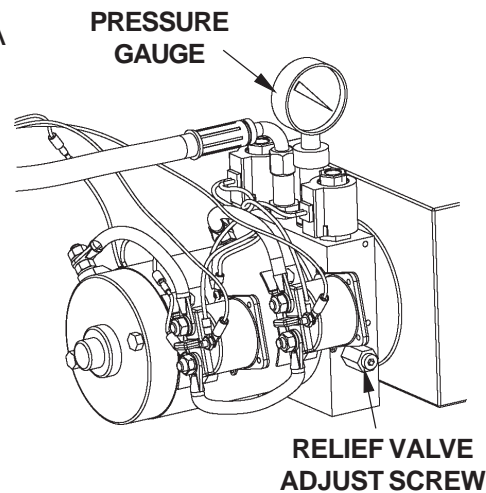

FIG. 6
3. With Platform on the ground, remove the pressure hose and fitting from the Pump and replace it with a 0-3000 PSI Pressure Gauge. Hold the switch in the "UP" position. Adjust the Relief Valve on the side of the Pump until the gauge shows 2800 to 3000 PSI (**FIG. 6**). Remove guage and re-install pressure hose.